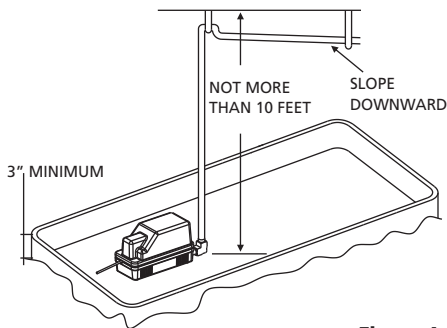

Figure 4
1. The 3/8" check valve should be attached to the 1/4" N.P.T. elbow. Make sure not to over-tighten. The pump should be put in a sump tank or other appropriate container. Make sure that the drip pan is at least 3" deep. Run the discharge line (3/8" vinyl tubing) up to the minimum distance required. Make sure that the discharge line is not more than 10 ft. It is advisable to slant the horizontal run down slightly to gain the benefit of gravity. (Figure 4)